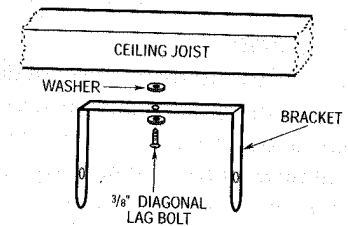

Figure 4a - Single-Screw Mounting
Refer to Figures 4a and 4b.
1. Turning the Unit - If the unit has been installed with a single lag bolt, as shown in the Figure 4a, simply turn the entire unit as needed to adjust air flow.